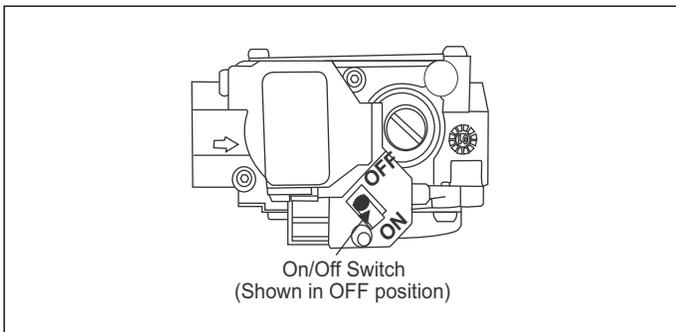

Figure 2
See Section 3, Fig. 2 as seen in the Installation, Operation, and Maintenance Manual for required clearances to combustible construction.
5. Push the gas valve switch to the OFF position (See Fig. 2).
8. If you do not smell gas after five minutes, push the gas valve switch to the ON position (See Fig. 2).
5. Move the appliance gas valve switch to the "OFF" position (See Fig. 2).